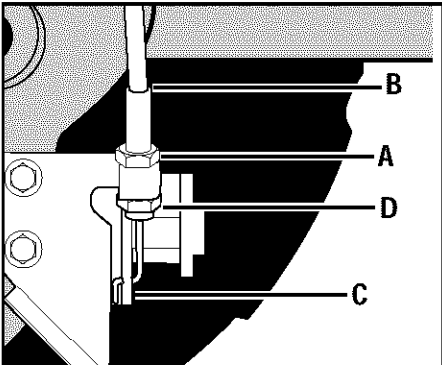

Figure 5-5: Wheel gear cable assembly.
2. Loosen the top adjustment nut (A, Figure 5-5) on the wheel gear cable bracket located on the left side rear of the transmission.